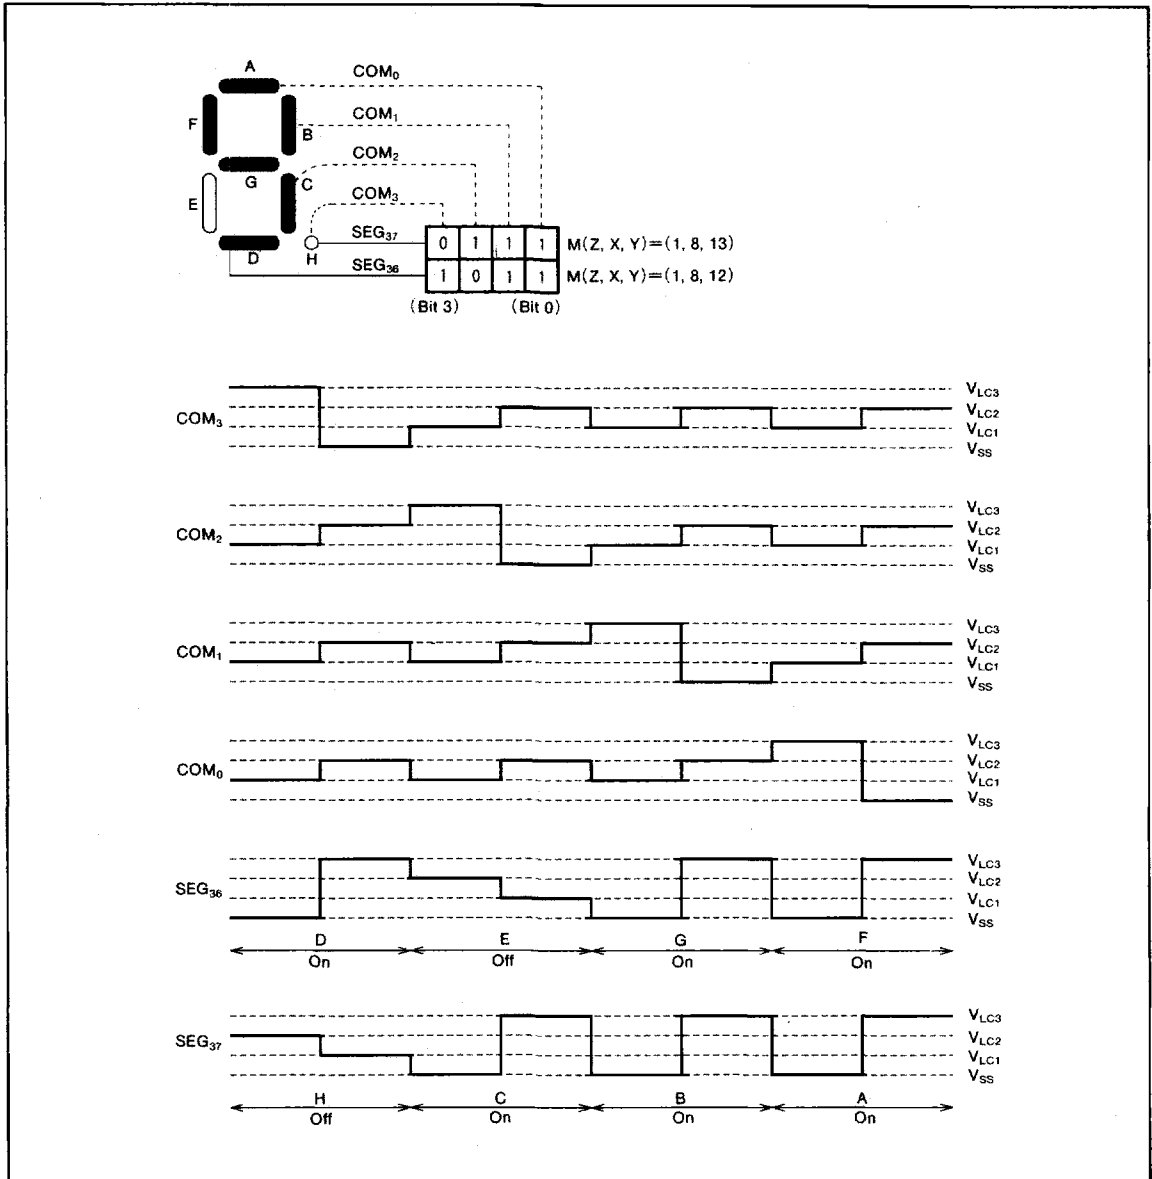

Fig. 38 Display pattern example and drive waveform example
4. Write (1011)₂ and (0111)₂ to addresses M(Z, X, Y) = (1, 8, 12) and M(Z, X, Y) = (1, 8, 13) in RAM as shown in Fig. 38.